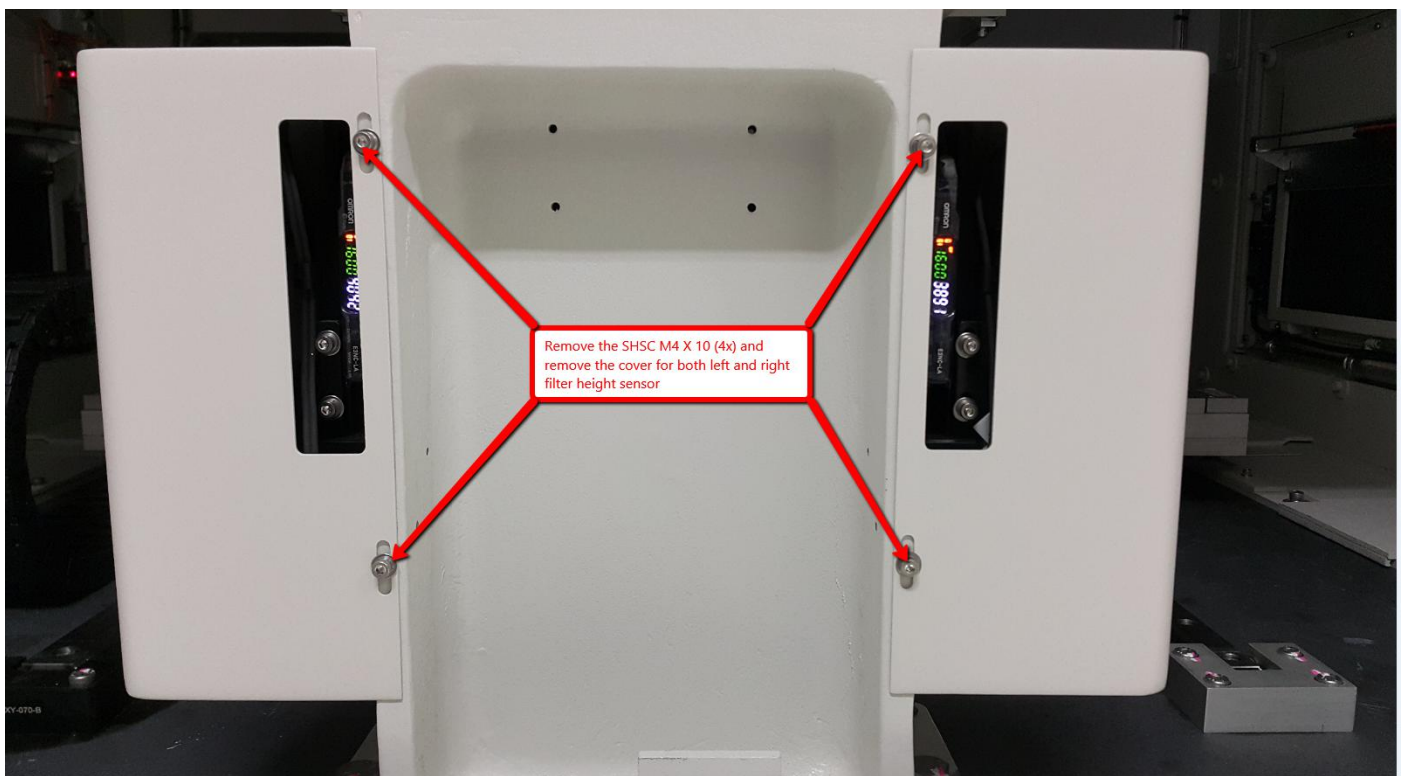

Figure 21 Filter Height Cover
18. Open the SHSC M4X10 (4x) and remove both filter height sensor cover as shown in the Figure 21.